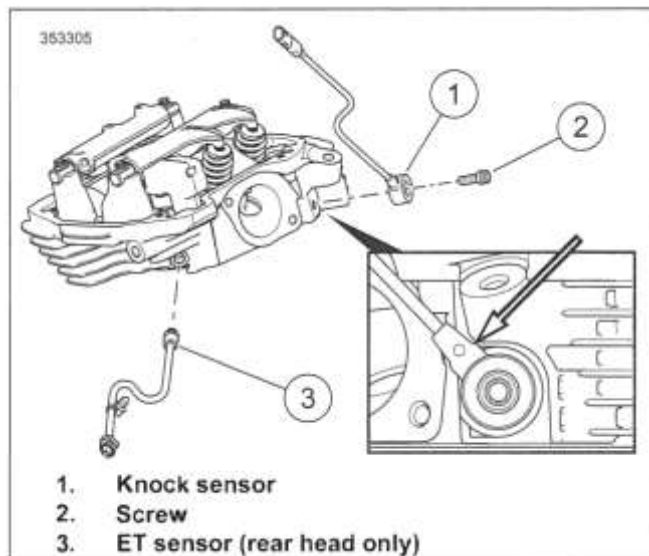

Figure 8-103. Cylinder Head Sensors
1. See Figure 8-103. Remove screw (2).
3. Remove sensor (1).
1. See Figure 8-103. Install sensor (1).